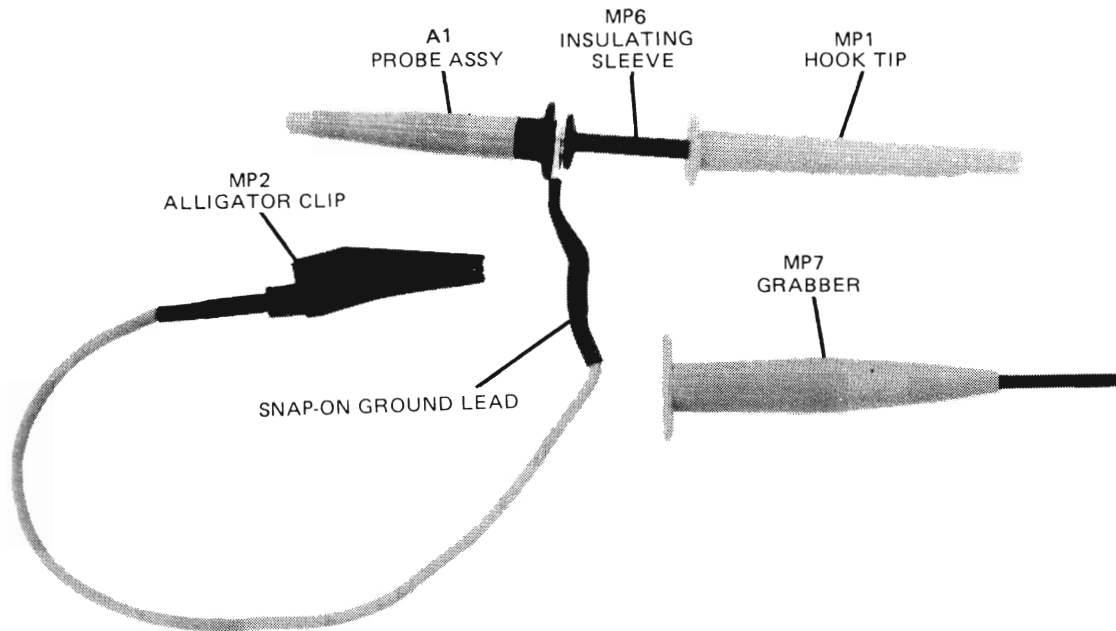

Figure 2. Probe with Hook Tip or Grabber
6. PROBE WITH HOOK TIP OR GRABBER. Hook tip MP1 or grabber MP7 can be attached to the probe by placing it over MP6 and pressing it on (see figure 2). The hook tip or grabber can be rotated on the probe without being removed. Alligator clip MP2 attaches to snap-on ground lead MP3 which fits the exposed ground connection on insulating sleeve MP6. Indicator sleeves snap on the probe cable for identification.